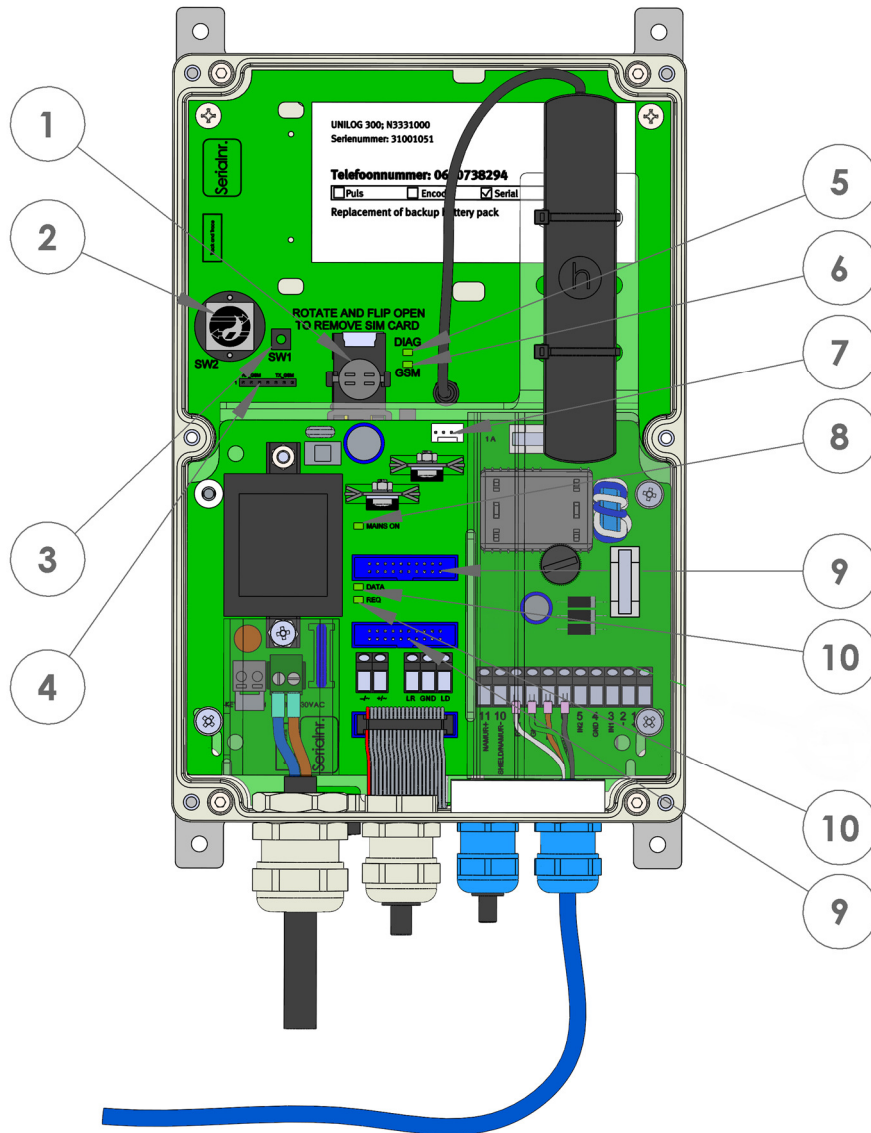

Figure 3. Opened UNILOG 300
A status LED is used to check the system status (pos. 5, figure 3).
If UNILOG 300 is attached to the GSM network successfully, the GSM status LED (pos 6, figure 3) will begin flashing. Then contact the central system so that the communication can be checked.
Correct functioning of the GSM connection can be checked by means of the GSM status LED (pos. 6, figure 3), colour yellow. During start-up of UNILOG 300, the GSM status LED is lit up continuously until UNILOG 300 is reported to the GSM network. This may take 10 to 20 seconds, depending on the GSM network. As soon as UNILOG 300 is registered to the network, the GSM status LED will start flashing slowly (once every two seconds). At the moment a connection with UNILOG 300 is established, the GSM status LED will start to flash quickly (once per second). After the connection is closed, the GSM status LED will start flashing slowly again.